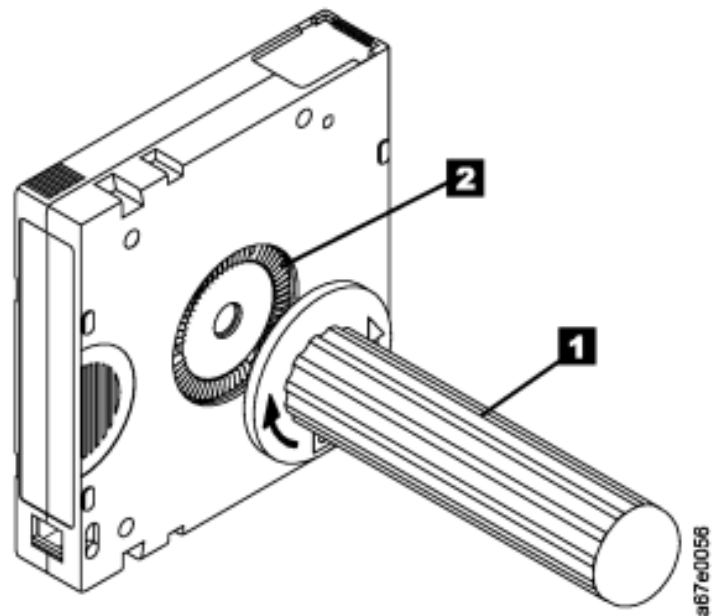

Figure 37. Rewinding the tape into the cartridge
5. To rewind the tape, insert the cartridge manual rewind tool (**1** in Figure 37 on page 130) into the cartridge's hub **2** and turn it clockwise until the tape becomes taut.